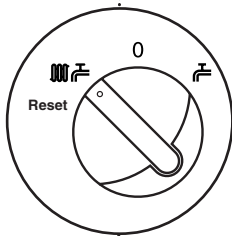

Fig. 13
1. With the selector switch in either Position (i) or Position (ii) (Figs. 13 & 14) the pump will automatically operate for 1 minute in every 24 hours to prevent sticking.
2. **To reset:** Turn the selector fully anti-clockwise against the spring pressure to the reset position (R) and release (Fig. 13).